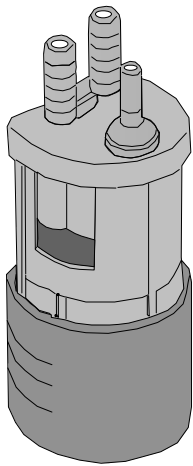
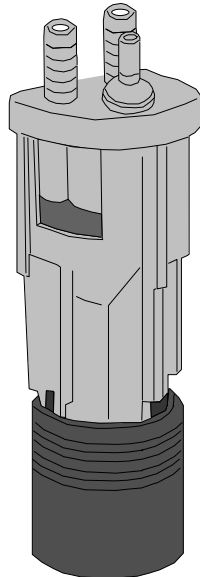

Fig. 1
Fig. 2
1. The AG100-004 unit is truly unique as its design permits quick and easy mounting over the top lip or inside the top end of the drainage standpipe. It works well with exposed standpipes or within the recessed wall boxes. AG100-004 fits on the outer rim or inside of 1-1/2-inches or 2-inches standpipe (metal or plastic). When in use, always mount the unit vertically at the top end of the drainage standpipe as pictured in Fig.1 and Fig. 2